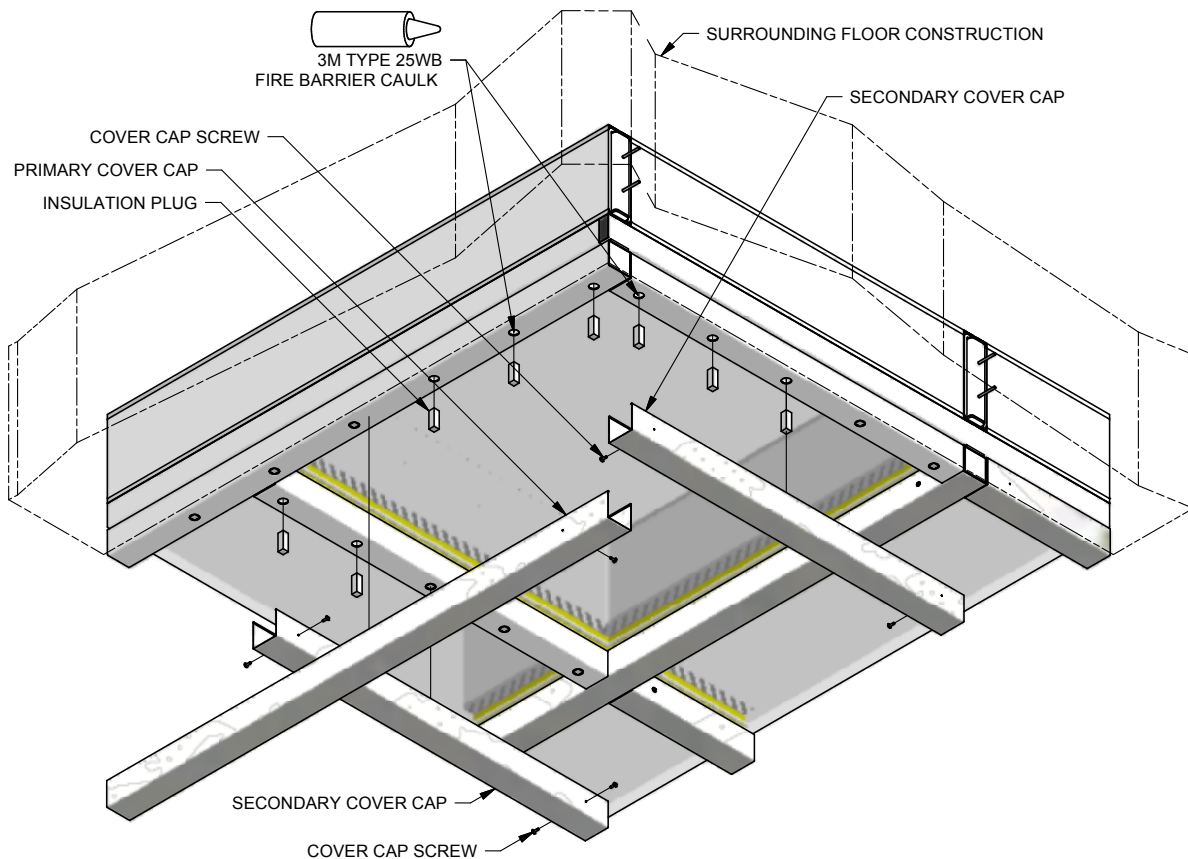

Figure 11: Cover Cap Installation
1. After all pressure plates are installed, use 3M Type 25WB Fire Barrier Caulk and supplied insulation plugs to fill holes in pressure bars. Insulation plugs might be supplied long, if this is the case, these should be snapped off so they remain flush with the pressure bar (See Figure 11).
1. Snap cover caps over pressure bars. Refer to TGP supplied project drawings for locations (See Figure 11).